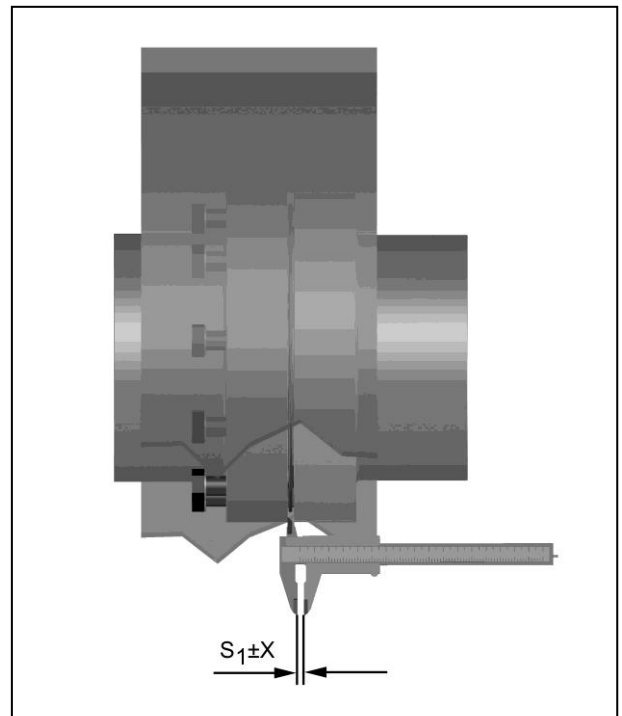

Fig. 8
- Measure the axial S_1 gap measurement according to figure 8.